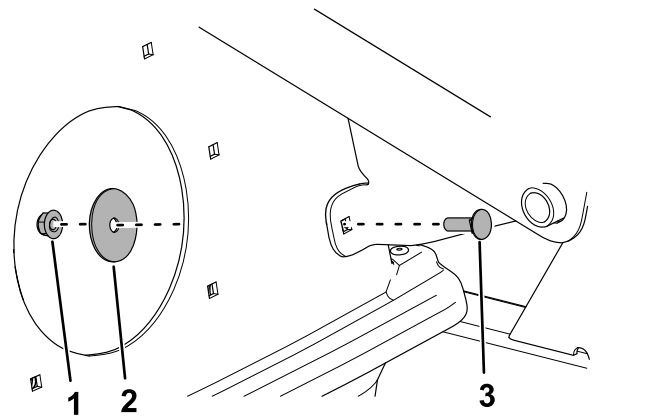

Figure 5
- Remove the bolt, washer, and nut from the pivot bracket (Figure 5).
7. Install the pivot bracket hardware from Figure 5.